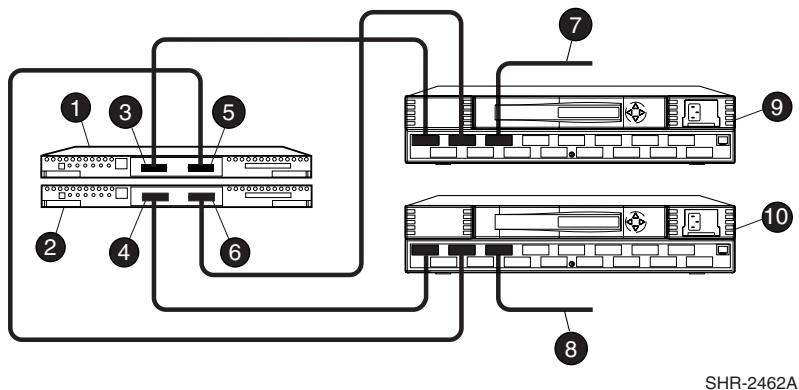

Figure 2–1: Cabling Two RAID Controllers and Two SAN Switches
- Cable the Fibre Channel adapter and the RAID storage system controllers to the SAN Switches, as shown in Figure 2–1.